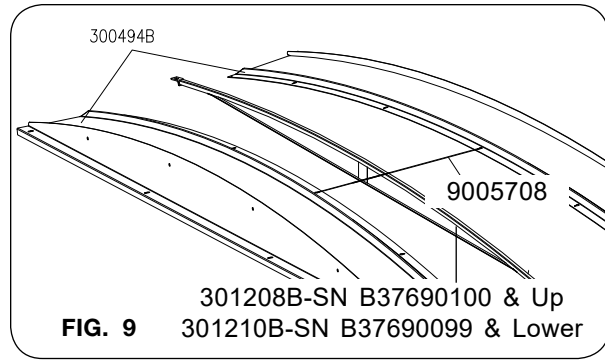

FIG. 9
7. Attach the cable assemblies (9005708) to the rear end cap holes, see FIG. 10. Run cables over the top of the bows (301208B - SN B37690100 & Up; 301210B - SN B37690099 & Lower). Route cables through holes in front end caps (FIG. 9). Insert capscrew (TA0-907131-0) through hole in front end cap and into bracket with U-nut assembly (281712B). Secure cables to the slot in bracket assembly (281712B) (FIG. 12). To tighten cables, tighten capscrew (TA0-907131-0) on outside of wagon until bracket makes cables snug tight. **Do not overtighten.** Plug the remaining holes in the rear end cap with plug (9005727).